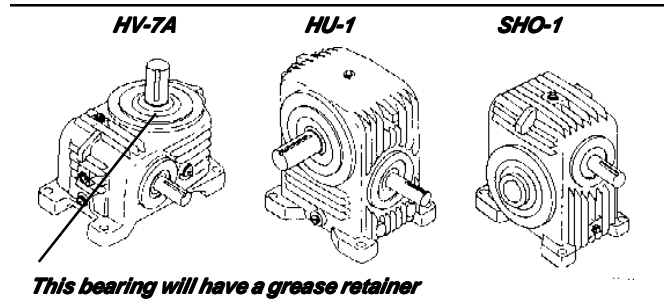

figure 5
3. Determine the hand of assembly of the speed reducer which is the relationship between the input and output shaft. This can be found on the name tag as part of the model number (see figure 5), the assembly drawing or from the reducer to be rebuilt.